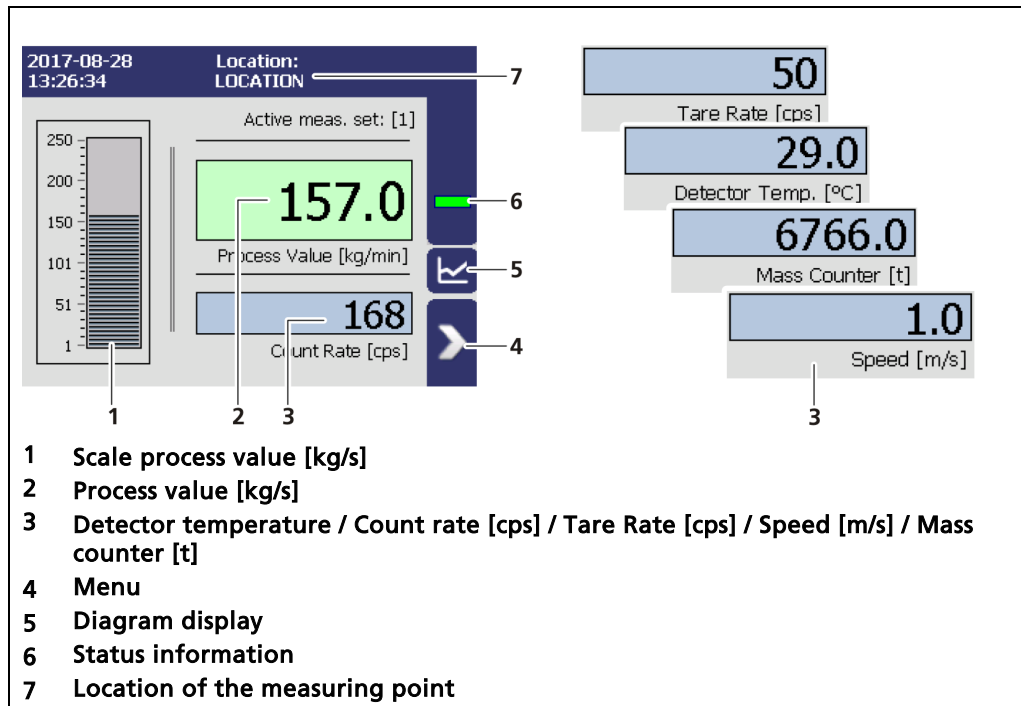
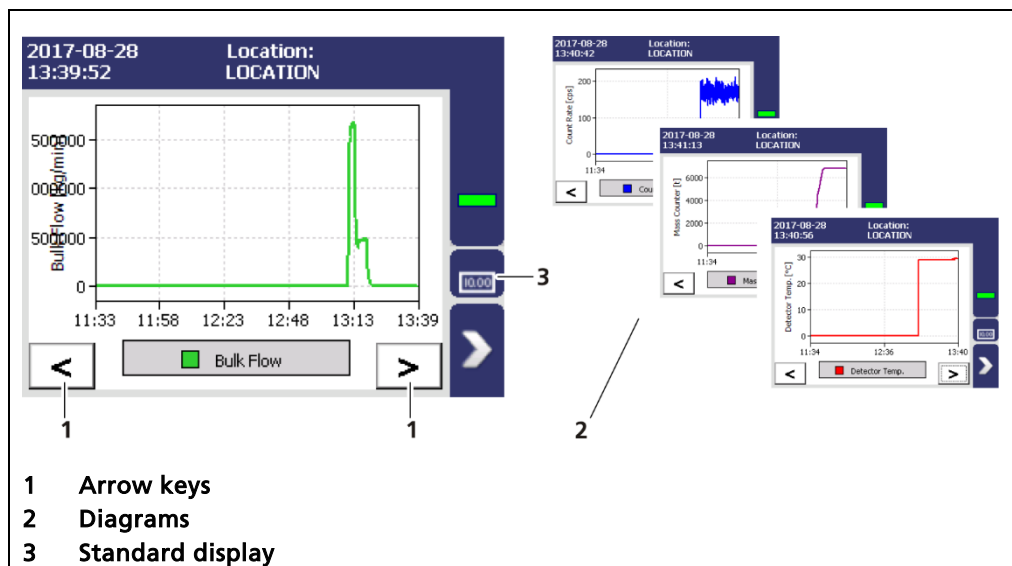
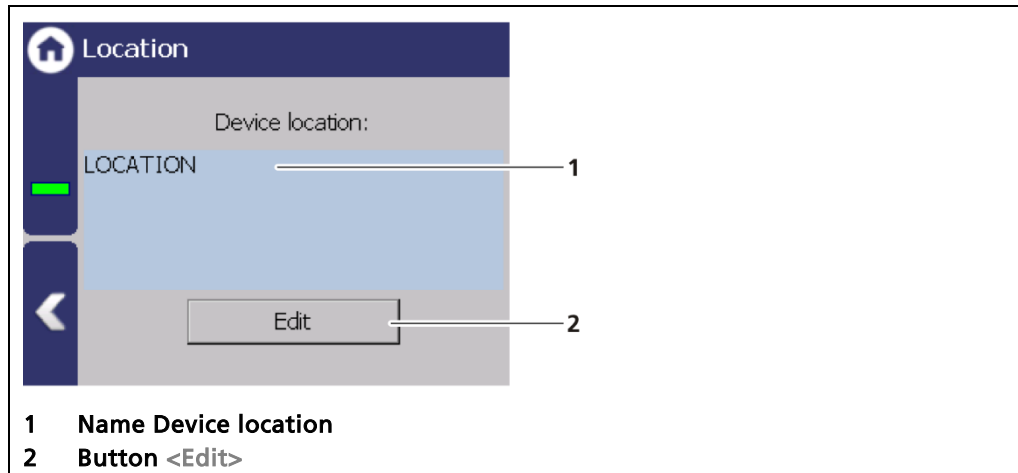

Fig. 28 Standard display of the EVU
Fig. 30 Diagram display of the EVU
Fig. 36 Device location
Clicking the blue box changes the display between Detector-Temperature- Count Rate – Mass Counter - Speed - Tare Rate (Fig. 28, item 4). The units can be changed in Chapter 7.3.1. The designation of the measuring point (Fig. 28, item 7) can be changed in Chapter 7.1.1.
Clicking the diagram symbol (Fig. 28, item 5) changes the view to the diagram display. The arrow keys (Fig. 30, item 1) are used to switch between the diagrams Process Value – Count Rate – Detector Temperature - Mass Counter.
Clicking the display symbol (Fig. 30, item 3) changes the view to the standard display.
The measuring point of the transmitter is displayed (Fig. 36, item 1) in the "Location" menu. The name can only be edited (7.2 Menu Access) in the access level "Standard". The location is displayed on the standard display at "Measuring point" (Fig. 28, item 7).
1. Click <Edit> (Fig. 36, item 2) to open the input field.